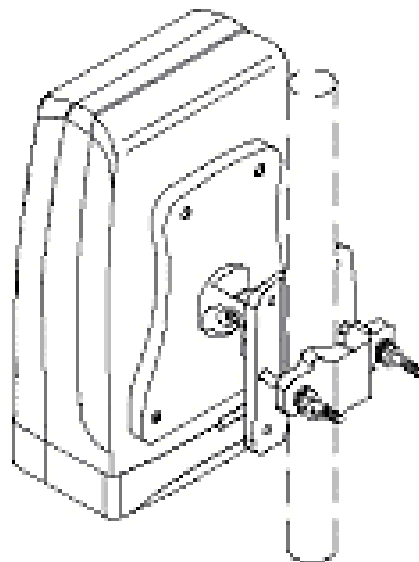

Figure 10-10: IDR secured to a pole
3. Slide the clamp-holder into position and secure using washers, spring-washers and nuts as illustrated in Figure 10-10. Finger-tighten the fasteners.